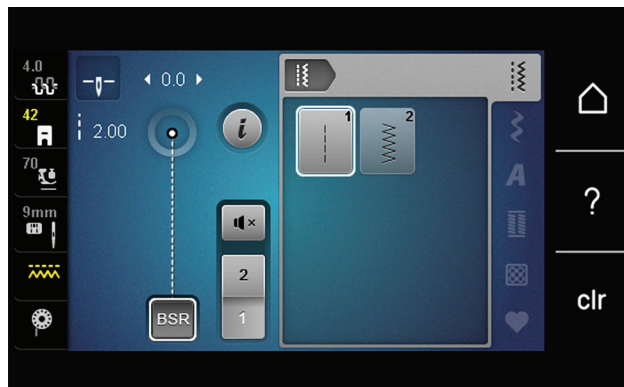

Fig. 20
The BSR offers different modes of operation (Fig. 20). Which mode you use will vary depending on your desired quilting technique and preference.
4. Practice quilting meandering boxes (Fig. 20) in one quadrant of your sandwich using Mode 1. Try other designs that include crisp points, like hearts or leaves.
5. Select Mode 2. Practice filling a second quadrant of your sandwich with meandering curves (Fig. 20) in this mode. Try designs with smoother curves and no points, like pebbles or stippling.